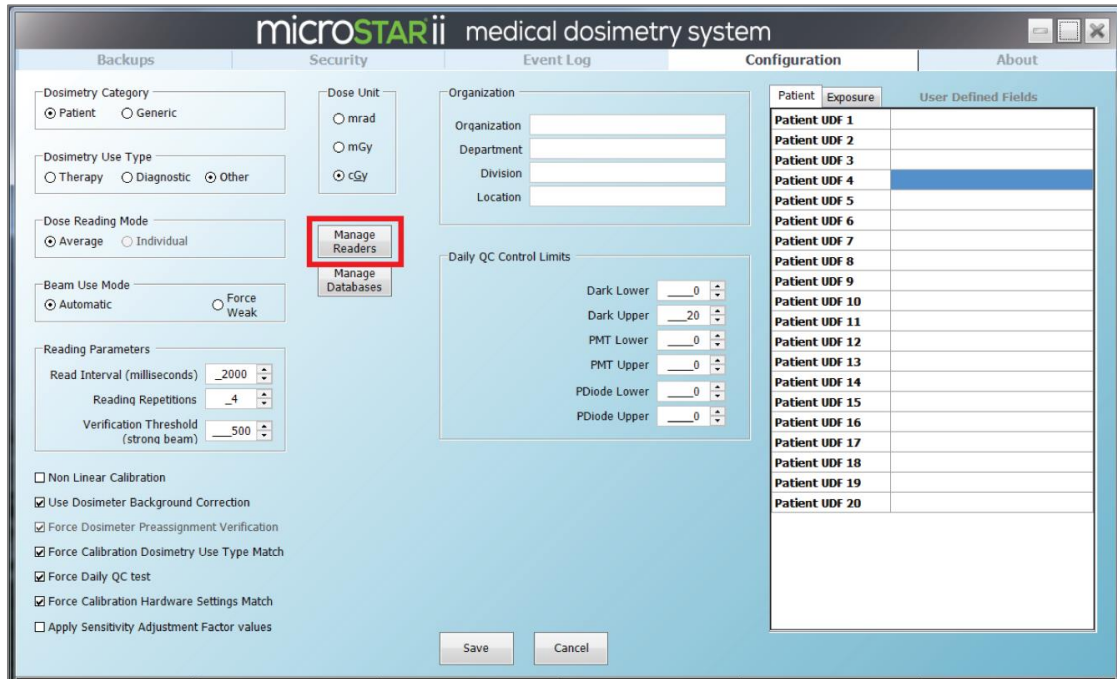

Figure 5-3: Configuration Tab – Manage Readers
STEP 2: Click the Manage Readers button. (Outlined in Figure 5-3 below.)